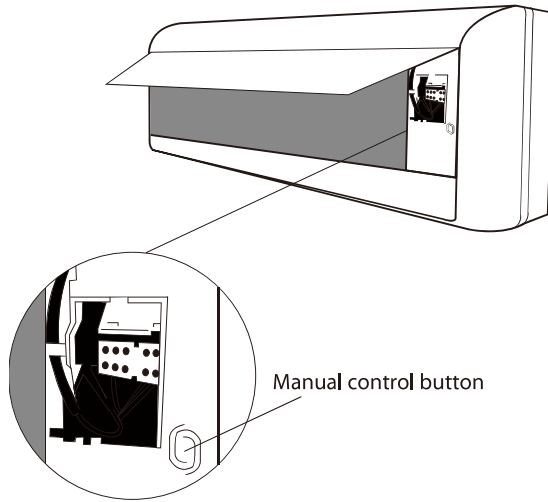

Fig. 8.1
2. The MANUAL CONTROL button is located on the right-hand side of the unit. Press it 2 times to select the COOL function. See Fig 8.1.